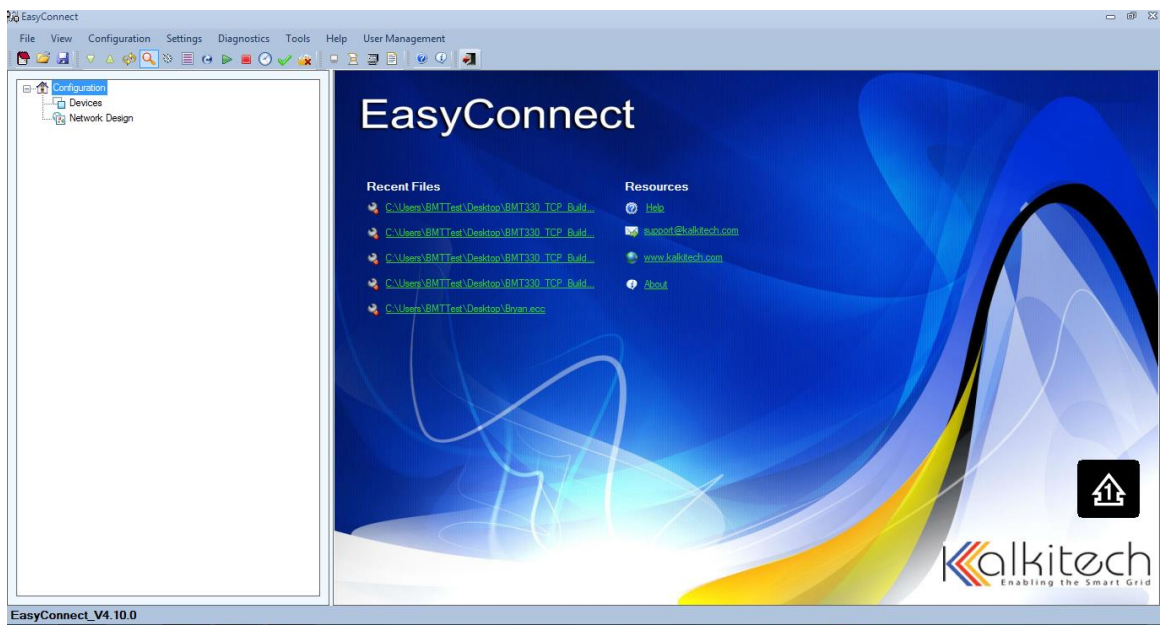

Figure E-12: EasyConnect main screen
2. The EasyConnect application opens as shown in Figure E-12. Click the **Upload** button  to change the IP address.